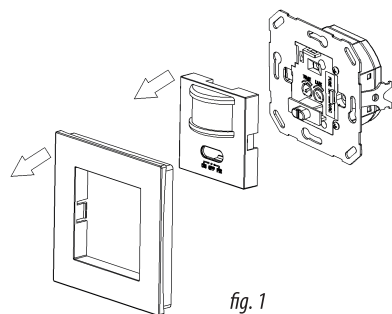

fig. 1
1. Turn off the main power supply. Take off the front covers of the sensor switch – fig.1.